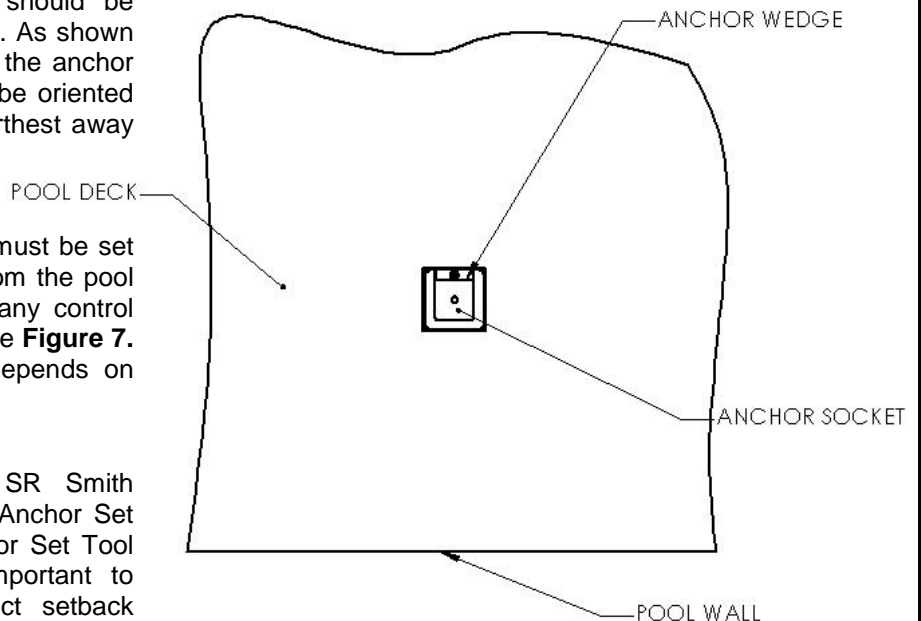
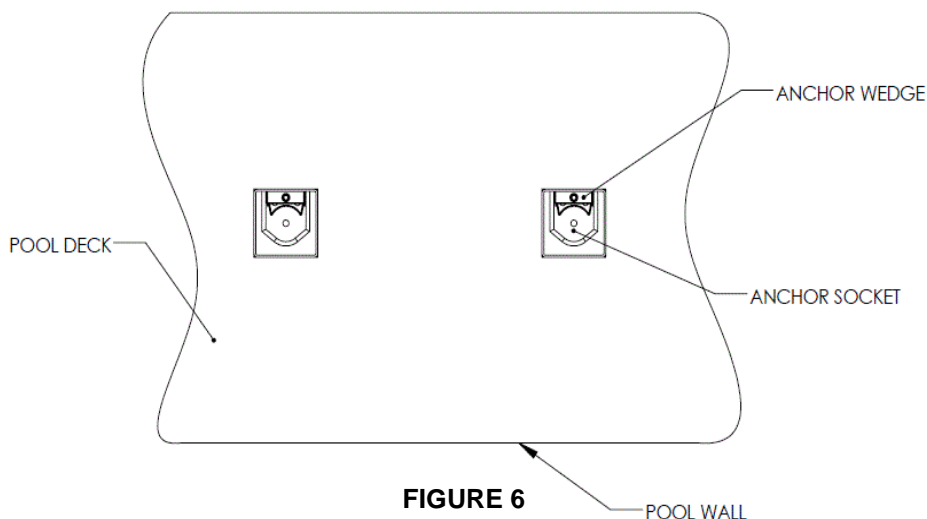

FIGURE 5
FIGURE 6
1. The RockSolid™ wedge anchor part numbers, 27-107 shown in **FIGURE 5** and 27-108 shown in **FIGURE 6**, should be installed in the orientation shown. As shown in **FIGURE 5 and 6**, the side of the anchor that contains the wedge should be oriented such that it is parallel to, and farthest away from, the pool wall.